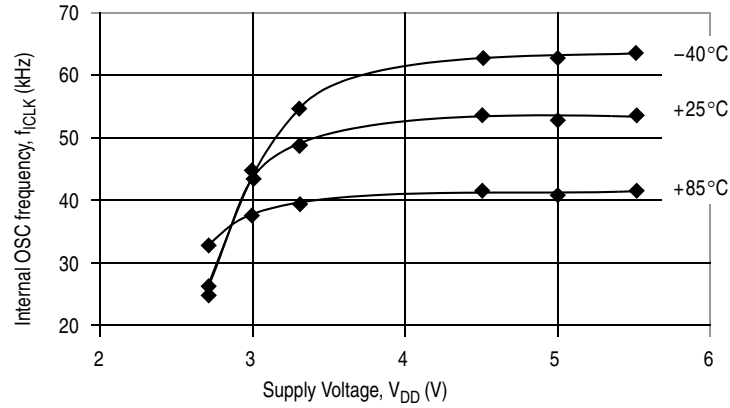

Figure 17-4. Internal Oscillator Frequency
1. Typical value reflect average measurements at midpoint of voltage range, 25 °C only. See Figure 17-4 for plot.